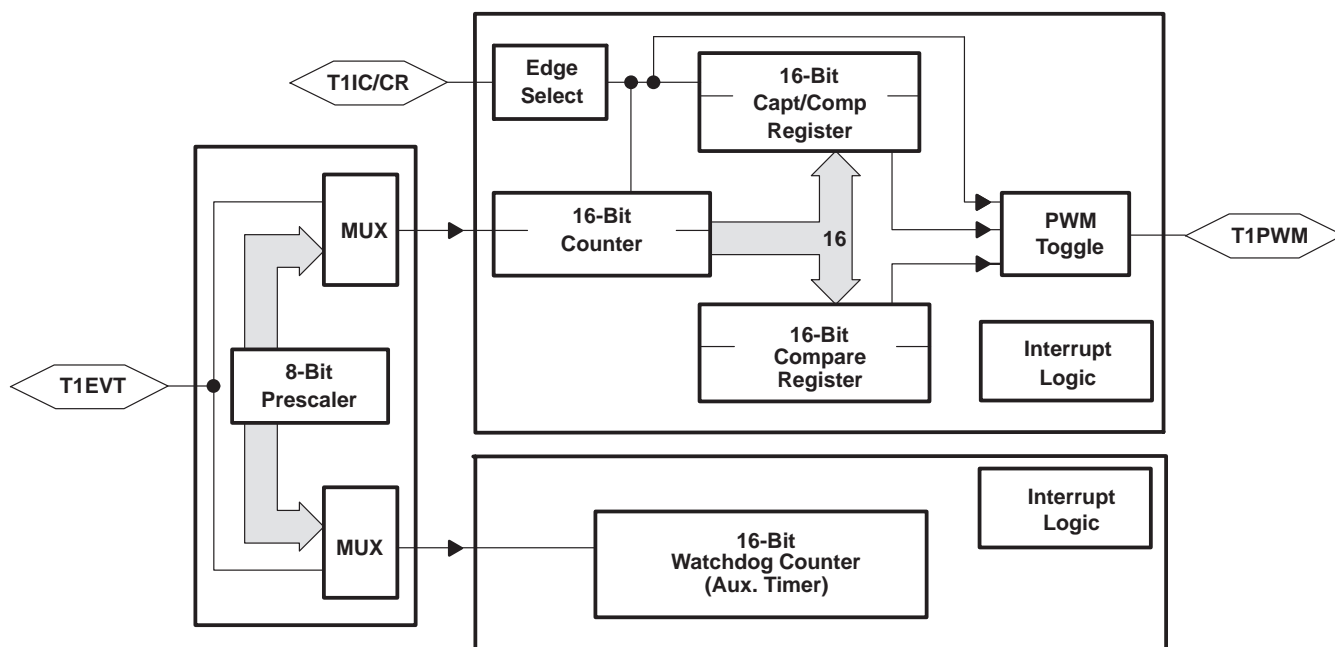

Figure 5. Timer 1 Block Diagram
The programmable Timer 1 (T1) module of the TMS370CxTx provides the designer with the enhanced timer resources required to perform real-time system control. The T1 module contains the general-purpose timer and the watchdog (WD) timer. The two independent 16-bit timers allow program selection of input clock sources (real-time, external event, or pulse accumulate) with multiple 16-bit registers (input capture and compare) for special timer function control. The T1 module includes three external device pins that can be used for multiple counter functions (operation mode dependent) or used as general-purpose I/O pins. The T1 module is shown in Figure 5.